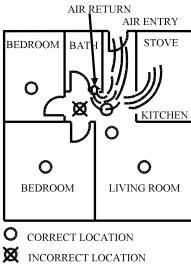

Figure 6:
- When air streams passing by kitchens, the way how an smoke alarm can sense combustion particles in normal air-flow paths is graphically shown in Figure 6, which indicates the correct and incorrect smoke alarm locations concerning this problem.